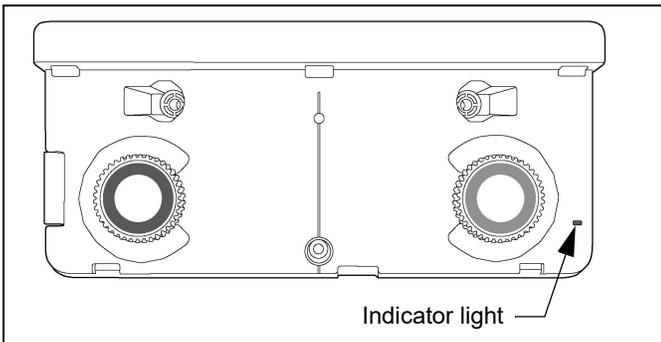

Figure 34
**NOTE:** The Touch Unit power turns on and the indicator light turns blue. (See Figure 34)